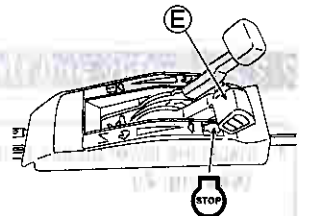

Fig. 14.
- 2 Set Throttle lever (E) to "STOP". (See Fig. 14.)